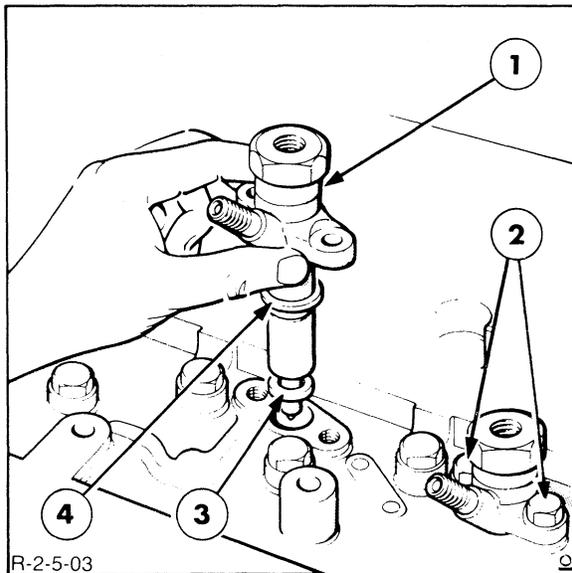

FIGURE 1-7
16. Clean the area surrounding the fuel injectors. Hold the leak-off pipe at each injector and carefully disconnect the fuel injector leak-off pipes, then remove the bolts and carefully remove the fuel injectors and washers, Figure 1-7.